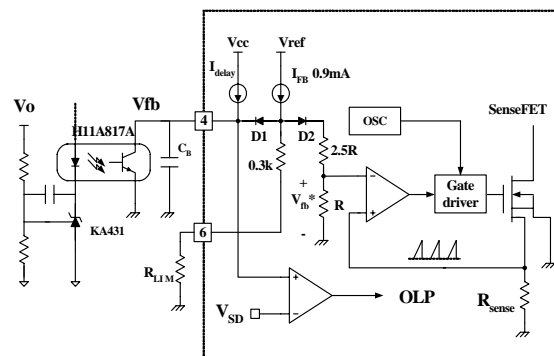

Figure 18. Pulse Width Modulation (PWM) Circuit
2. Feedback Control: The FSCM0565R employs current mode control, as shown in Figure 18. An opto-coupler (such as the H11A817A) and a shunt regulator (such as the KA431) are typically used to implement the feedback network. Comparing the feedback voltage with the voltage across the Rsense resistor makes it possible to control the switching duty cycle. When the reference pin voltage of the KA431 exceeds the internal reference voltage of 2.5V, the H11A817A LED current increases, thus pulling down the feedback voltage and reducing the duty cycle. This event typically happens when the input voltage is increased or the output load is decreased.
2.1 Pulse-by-pulse Current Limit: Because current mode control is employed, the peak current through the SenseFET is determined by the inverting input of the PWM comparator (V_{fb}^*) as shown in Figure 18. When the current through the opto transistor is zero and the current limit pin (#5) is left floating, the feedback current source (I_{FB}) of 0.9mA flows only through the internal resistor ($R+2.5R=2.8k$). In this case, the cathode voltage of diode D2 and the peak drain current have maximum values of 2.5V and 2.5A, respectively. The pulse-by-pulse current limit can be adjusted using a resistor to GND on the current limit pin (#5). The current limit level using an external resistor (R_{LIM}) is given by